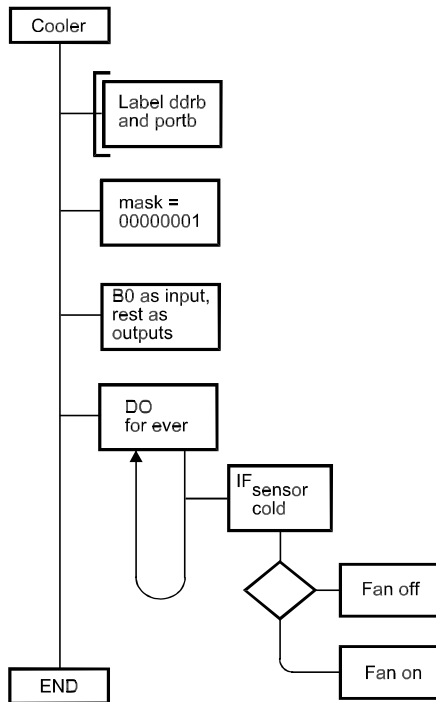

Figure 11.7 *The cooler program, drawn as a DSD, can be seen to run forever, never reaching the end.*
Fig. 11.7 illustrates some other features of DSDs. First there is a sequence of three processes which set up the system ready for action. Then there is a loop, but this is one in which there is no test to see if the task is completed. Consequently, the CPU circles this loop indefinitely. Each time round the loop, it samples the sensor and a decision is taken on whether to switch the fan off or to switch it on. When the decision has been taken and acted upon, the CPU runs back along the way it has come until it reaches the loop. Then it continues around the loop, back to the 'DO' box, and on around the loop again. It samples the temperature and switches the fan accordingly every time round the room. It never reaches the 'End' terminator.
- **Selection:** there is a choice between alternative paths, depending on whether a condition is true or not. In some programs only one path (the condition is true) leads to specific action. In other programs (Fig. 11.7) each path leads to an appropriate action. Note that in Fig. 11.7 the selection is within an iteration.